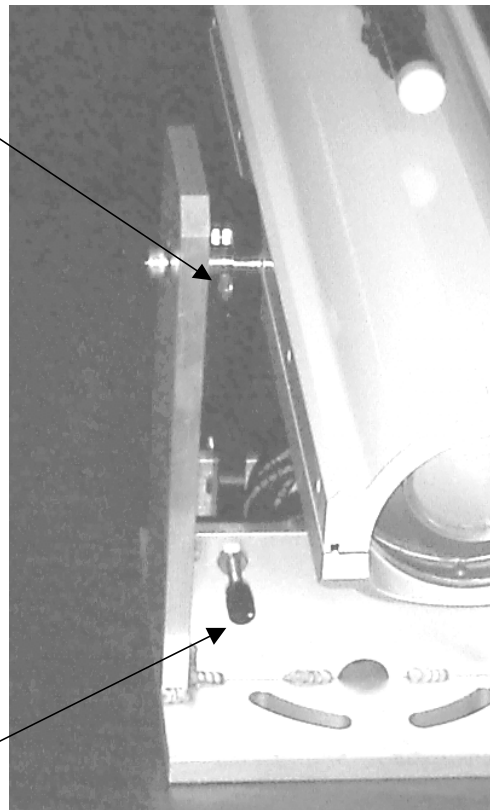

Figure 7. Elevation course and fine adjustments.
2. If a large elevation motion is necessary (more than 5 degrees), loosen the two bolts on the black lever arm using the 7/16" open end wrench and loosen the 3/8" Socket head cap screw on that same side of the gimbal. At this point, the entire tube will pivot about its center. Using the spotting scope, point roughly towards the other unit and tighten the three bolts loosened previously (see Figure 7).